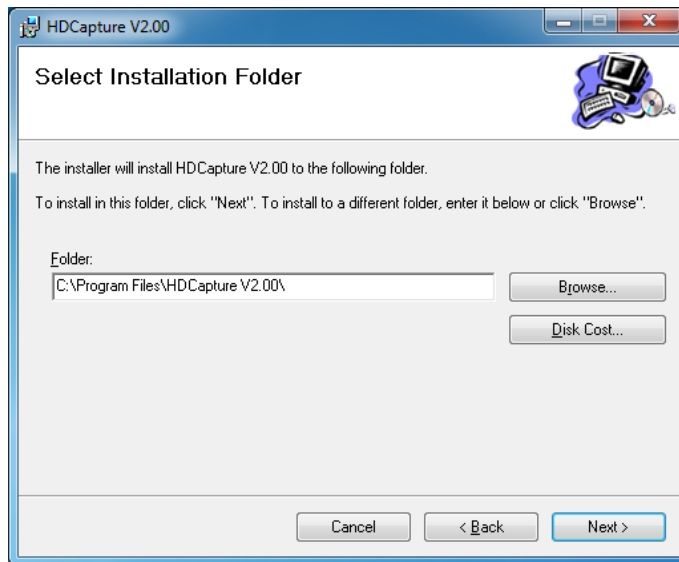

Figure 3-10: Select Installation Folder
Step 4: Select a folder for HDCapture installation in **Figure 3-10**. Click **Next** to continue.